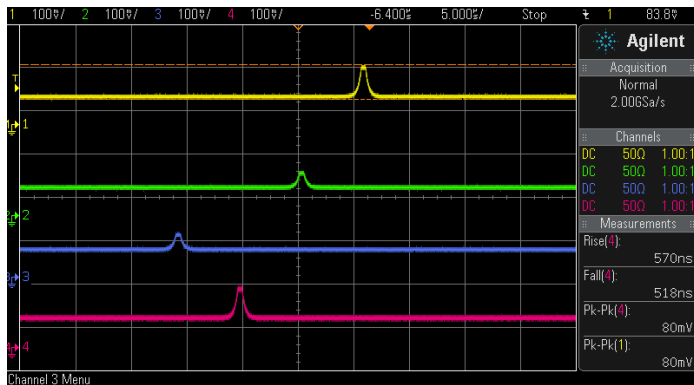

Figure 4 : Example 1 Result
- The outputs from J2, J1, J4 and J5 will be as displayed in Figure 4